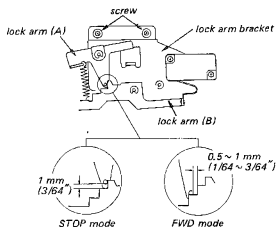

Fig. 3-9. Lock arm bracket position adjustment
- Make sure that the clearance between the lock arm (A) and the lock arm (B) is 0.5 ~ 1 mm (1/64 ~ 3/64") in the FWD (or REV) mode. In the STOP mode the clearance between the lock arm (A) and the lock arm (B) should be approximately 1 mm (3/64"). See Fig. 3-9.
- Loosen the two lock arm bracket holding screws, if necessary. See Fig. 3-9.